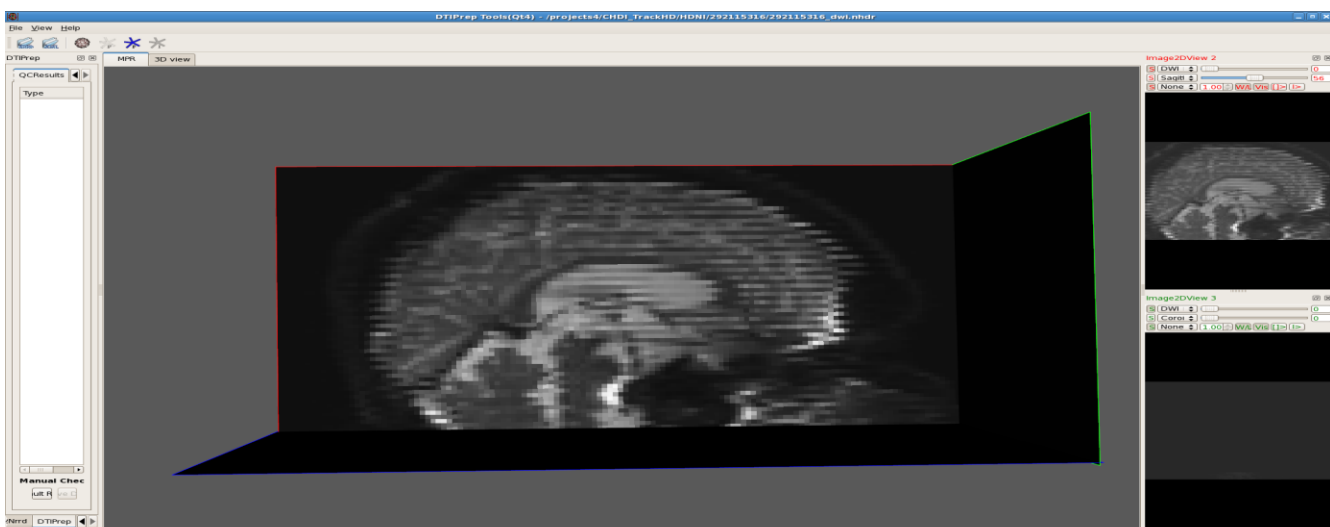
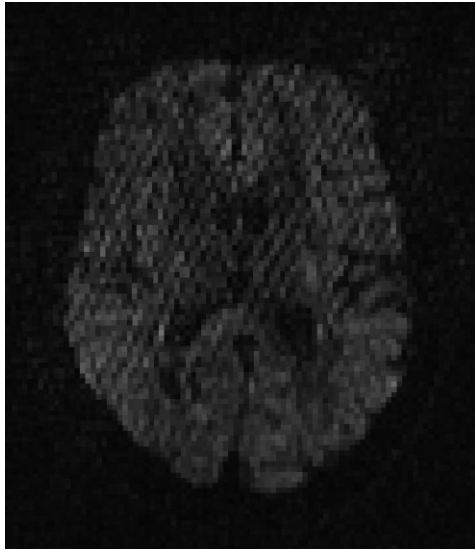

Figure 2.2 “Venetian Blind” Effect A clear example of the “venetian blind” artifact as seen in DTIPrep
Figure 2.3 (left) “Checkers” artifact shown in an axial slice in a DWI gradient
- iv. Document any perceived image quality issues; i.e. “venetian blind” effect/horizontal stripes (Fig. 2.2), “checkers” effects - particularly in axial views (Fig. 2.3), motion artifacts, geometric artifacts, “bar” artifacts, distortion, “Z-stripe” artifacts, gradients with intensity differences between slices (Fig. 2.6), “cartoon/blur” artifacts (Figs. 2.12-13) and any other anomalies.